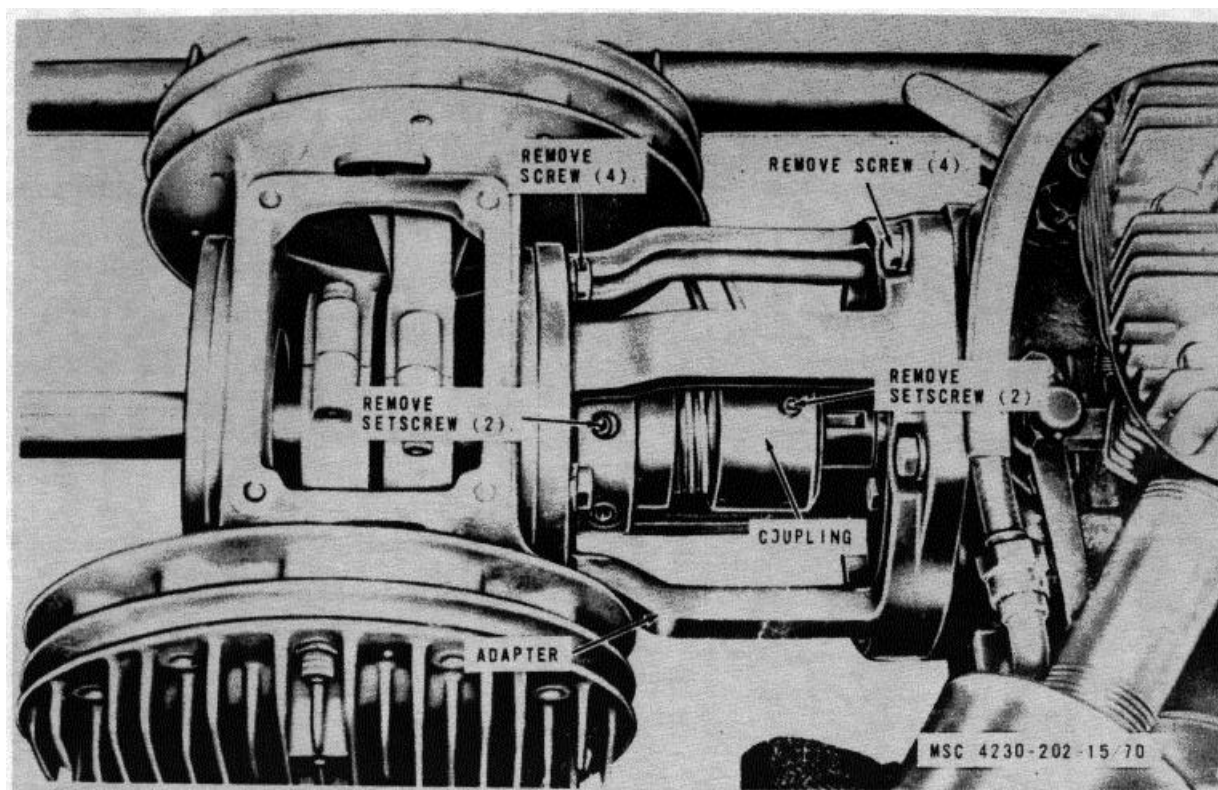

Figure 6-5. Coupling and adapter removal and installation
- (1) Remove the balance weight (para. 6-12).
- (2) Remove the air compressor (para. 4-20).
- (3) Refer to figure 6-5 and remove the coupling and adapter.
- (1) Refer to figure 6-5 and install the coupling and adapter.
- (2) Install the air compressor (para. 4-20).
- (3) Install the balance weight (para. 6-12).